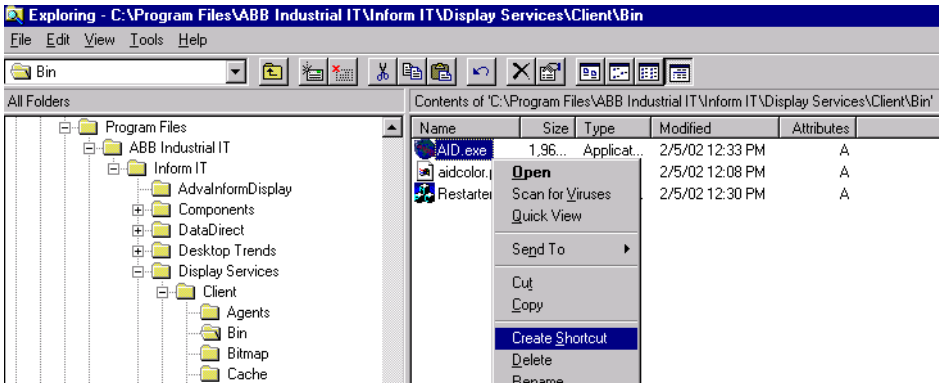

Figure 4. Creating a Shortcut for Aid.exe
2. Right click on Aid.exe and choose **Create Shortcut** from the context menu, Figure 4.